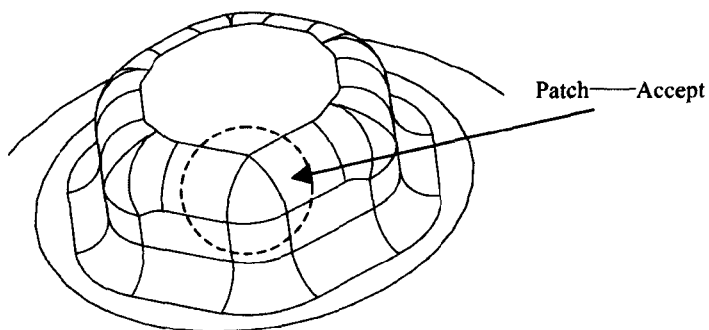

图 9_4-5
2. Modify | Done → “Specify surface to create fillet curve on.” 选择上表面 → “Enter radius to create fillet curve with” 输入圆角半径值: 5 → Done Trans → 选择 Preview, 结果如图 9_4-6。